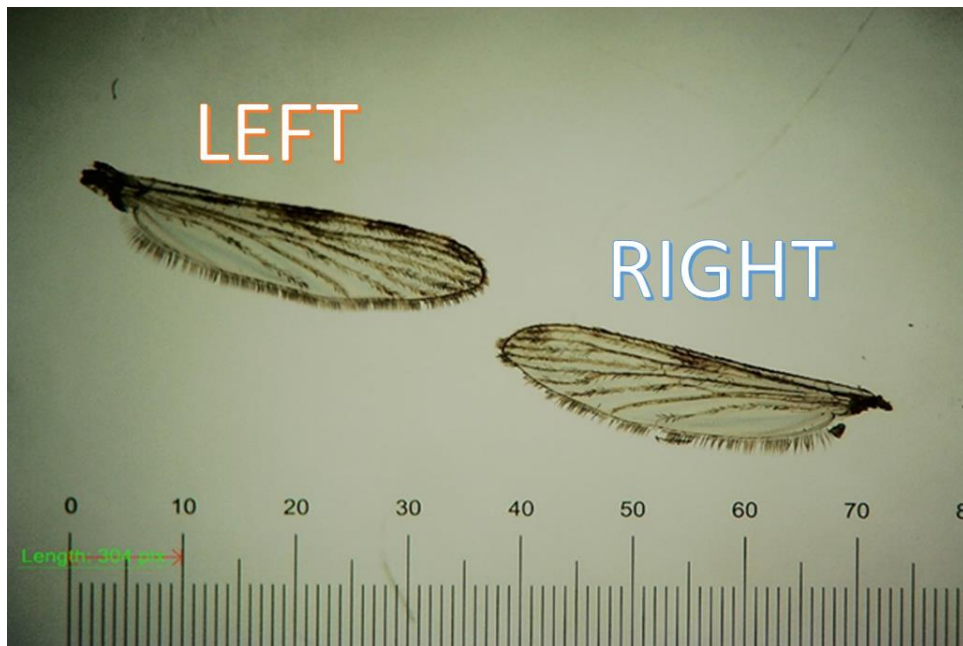

Figure 2. Wing position for photographing with micrometer.
- 3.2.5. Once both wings have been separated from the thorax, use the fine-tipped forceps to transfer them to the calibration slide, that has the micrometer on, for photographing. Ensure that the orientation of both wings is consistent throughout all wing measurements. Place the left-hand side wing above the right-hand side wing for photographing (Figure 2).